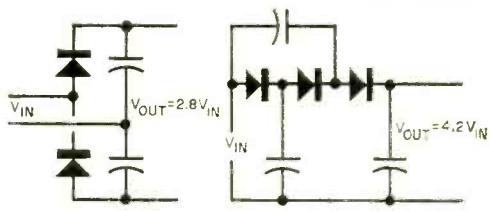

Fig. 2. To attain necessary high voltage, doubler and tripler circuits are used in the tube power supplies.
**Energy Supplies.** Between 300 and 600 volts dc are required to power the most common types of flash tubes. A voltage doubler (or tripler) such as that shown in Fig. 2 will serve the purpose well. Since the capacitor must discharge quickly, its internal resistance increases the flash duration and generates heat within the capacitor. Special flash-type capacitors are available, but conventional electrolytic capacitors may